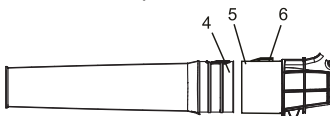

Fig. 6
3. Slide the large end of the rear nozzle section (4) over the Blower/Sweeper intake (5) (Fig. 6).
4. Push the rear nozzle section firmly onto the Blower/Sweeper intake until the nozzle release button (6) “clicks” into place locking the nozzle assembly onto the Blower/Sweeper intake.